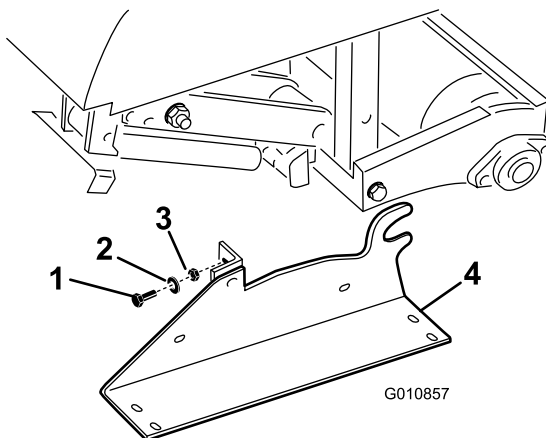

Figure 31
2. Remove the bolts, lock washers, and nuts securing the storage stands to each end of the aerator (Figure 31).